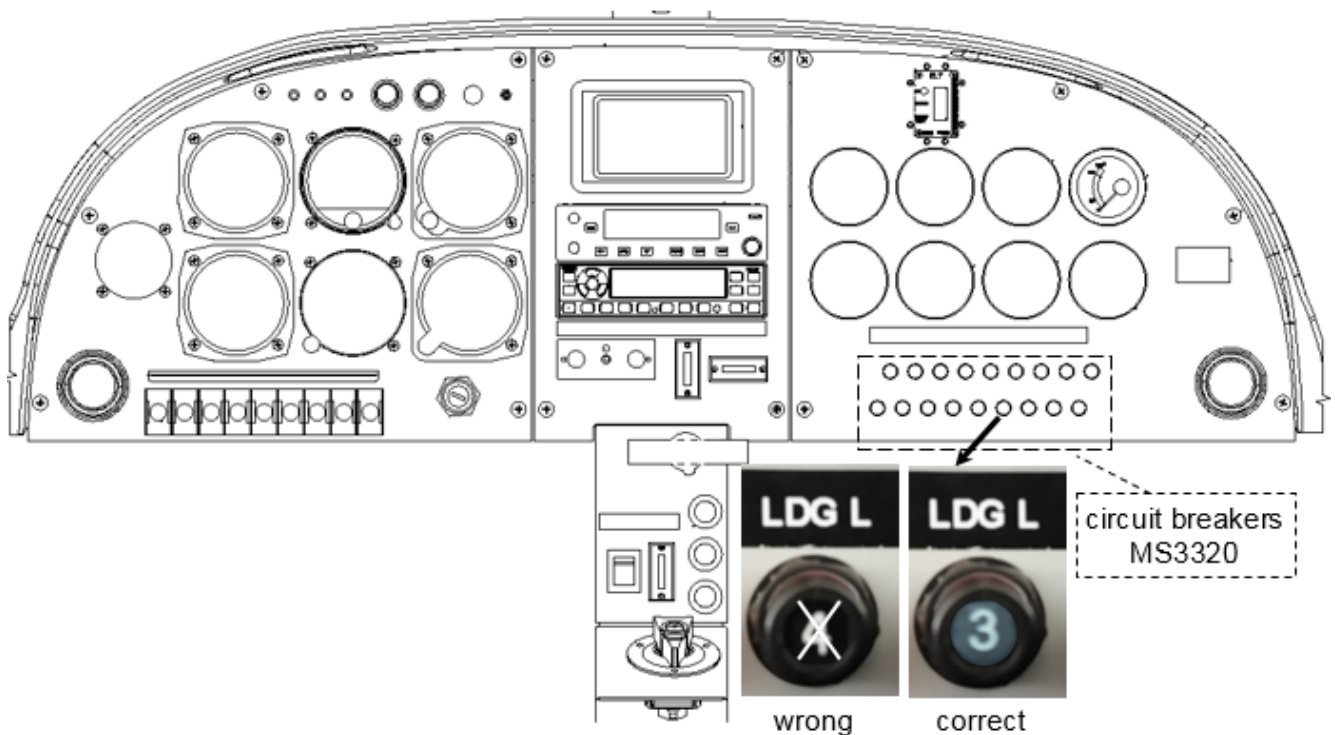

Figure 5 - The LDG L MS3320-x circuit breaker. Placed on the right instrument panel
NOTE: Numbering of parts used in this Section 2 belongs to Figure 5, 6 and 7 below.
The MS3320 LDG L circuit breaker is installed on the right instrument panel, see Figure 5, The circuit breaker is marked "LDG L". Replacement of the circuit breaker has no effect on mass and CG of the airplane.
Note: The instrument panel on Figure 5 is illustrative only, and may differ depending on the aircraft equipment.
- 2.1 Determine the LDG L circuit breaker (text "LDG L") on the right instrument panel, see Figure 5.
- 2.7 Use the new LDG L circuit breaker from the replacement package (MS3320-3, current range of 3A), see Figure 5. Insert the circuit breaker in the right instrument panel and fix using the nut (2) with the washer (3), see Figure 7.